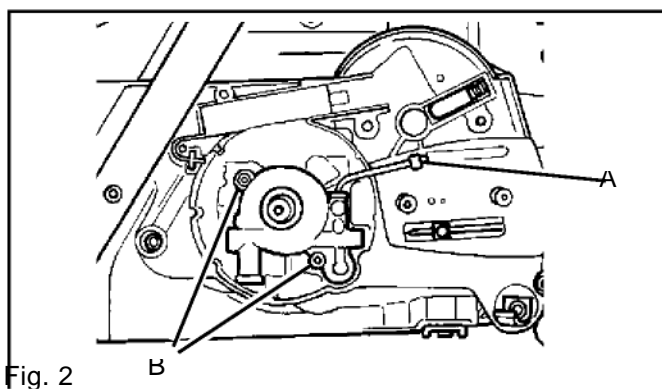

Fig. 2
4. Fit the clutch drum (C) together with the needle roller bearing (D) and chain drive-wheel (E). Grease the needle roller bearing before assembly. See fig. 2.
5. Fit the washer and circlip (B). See fig. 2.
4. Use a screwdriver and lift the oil pipe forward at A. Lift up the pipe and pull it out of the oil pump. See fig. 2.
5. Remove the two bolts (B) and lift the oil pump from the crankcase. See fig. 2.
6. Fit the oil pump into the crankcase. Tighten the bolts to 5 Nm. See fig. 2.
7. Locate the oil pipe and seals. See fig. 2.
- Mixing venturi, B in fig. 2.